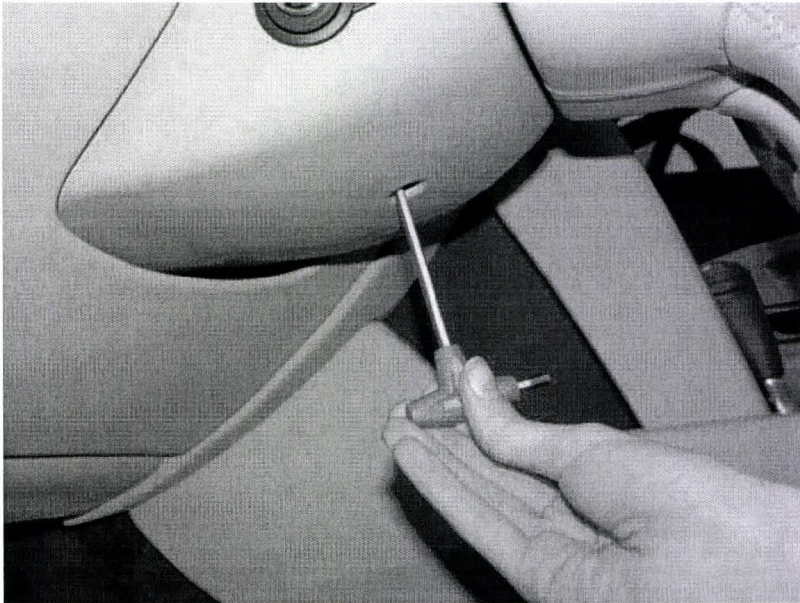

Figure 1
1. Slacken off the multi-function switch 4mm Allen bolt fixing which can be accessed through the steering column lower cowl (Figure 1).